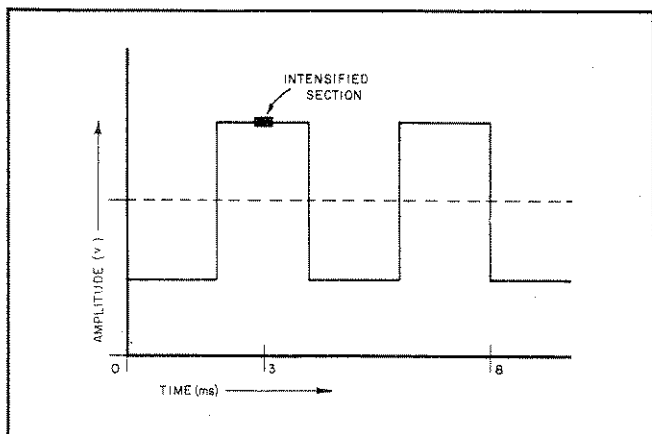

Figure 3-3. Intensified Waveform.
- e. Adjust the 3310A output level, and the oscilloscope trigger and intensity levels to obtain a waveform as illustrated in Figure 3-3.